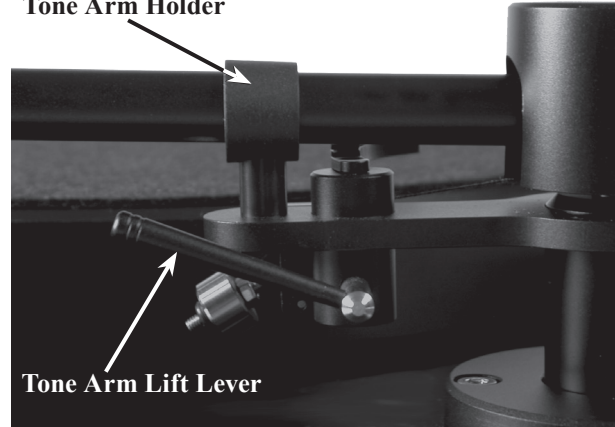

Figure 37
1. Push on the top part of the Tone Arm Lift Lever towards the rear of the turntable. Refer to figure 37.